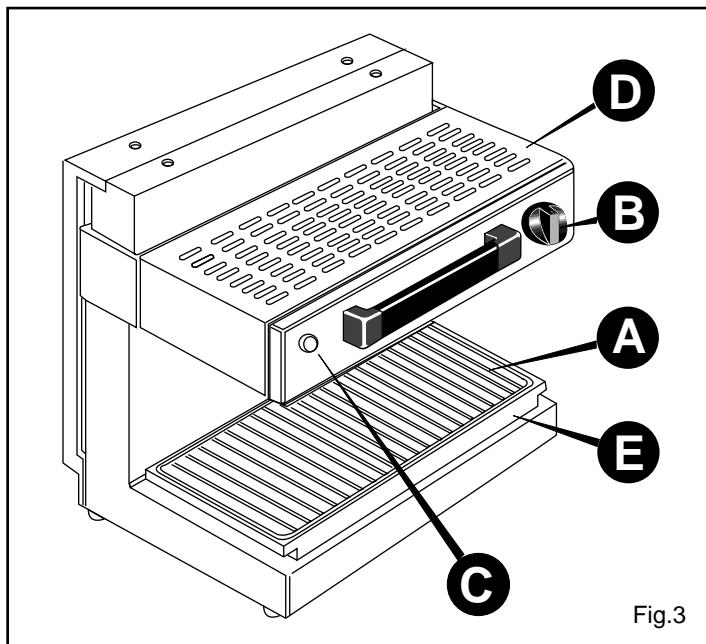

Fig.3
- Put the food to be broiled on grig **A** (fig. 3);
- Turn knob **B** to pos. 7 (max. power) or to another position according to requirements; warning ligt **C** will switch on.
Clean collecting pan **E** and grid **A** (fig. 3) with warm water and a non abrasive detergent.